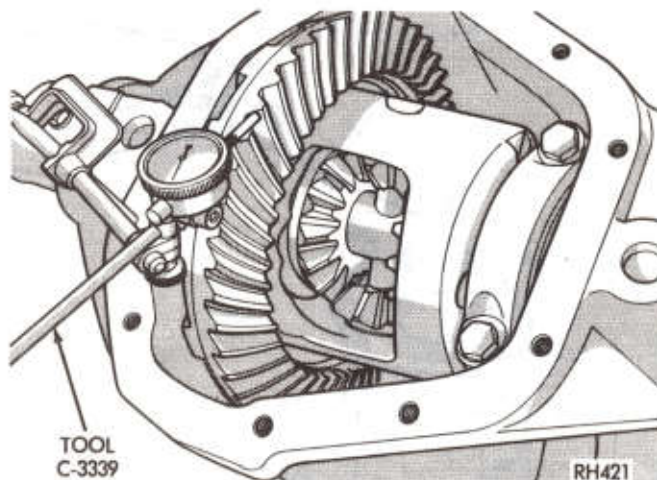

Fig. 28—Checking Ring and Pinion Gear Backlash
(17) Check ring gear and pinion backlash in three equally spaced points with dial indicator as shown in (Fig. 28).
(3) Remove differential and ring gear assembly from carrier.
(4) Remove differential bearing cones. Install the correct thickness shim pack as determined in step 2 between bearing cone and differential case hub shoulder using Tool C-4025-A and Handle C-4171. Add an additional .015 inch (.38mm) shims to the drive gear tooth side of differential and install the differential bearing cones. This additional .015 inch (.38mm) shim pack provides the correct bearing preload and backlash.
(5) Position spreader Tool D-167 in locating holes of carrier and tighten screw finger tight. Install dial indicator and spread carrier .015 inch. Do not exceed this limit to permit placing of differential and ring gear assembly in carrier.
(6) Install the bearing caps in their respective positions as indicated by identification marks on caps and carrier. Remove the spreader tool. Coat the bearing cap bolt threads with sealing compound and install and tighten bolts snugly.
(7) Tap the drive gear lightly with a rawhide hammer to properly seat the differential bearing and cups. **Care must be taken in this operation to prevent nicking the teeth of ring gear or drive pinion as they are meshed together.** Tighten the bearing cap bolts to 85-90 ft. lbs. (115-122 N·m).
(8) Attach a dial indicator to carrier and with indicator contact point contacting ring gear tooth (Fig. 28), measure the backlash between the ring gear and drive pinion.
(9) Check backlash at four equally spaced points around circumference of ring gear. Backlash must be held between .004-.009 inch and cannot vary more than .002 inch between the four positions checked.